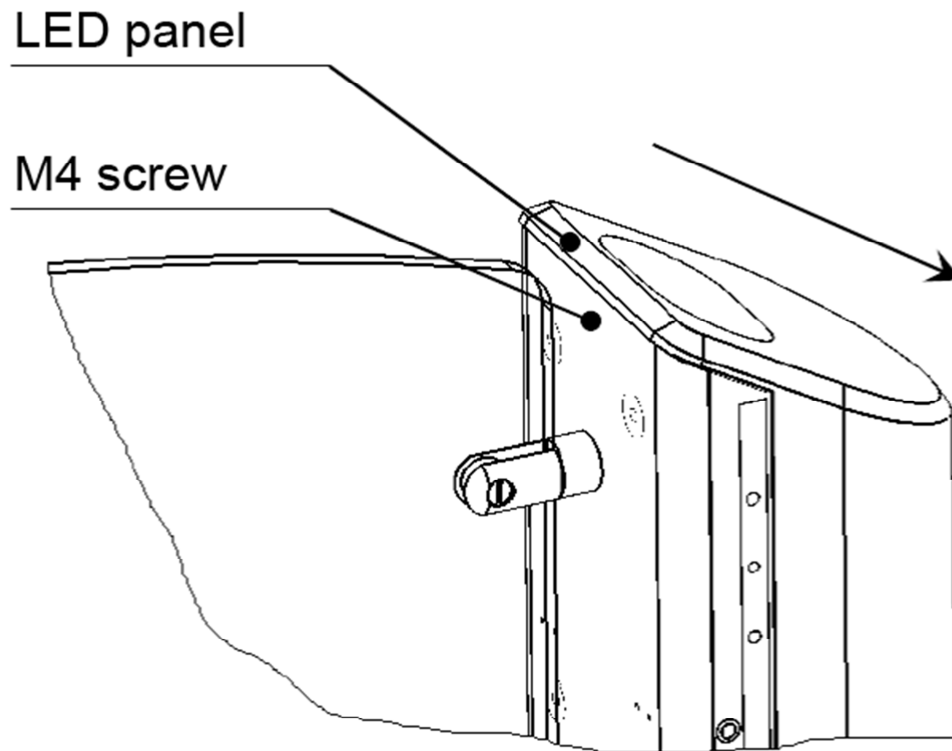

Fig. 17
6.5.1. Undo the M4 screw at the rear of the card collector (Fig. 17)
6.5.2. Slide the LED panel to the stop in the direction indicated in Fig. 17. Carefully lift the panel.